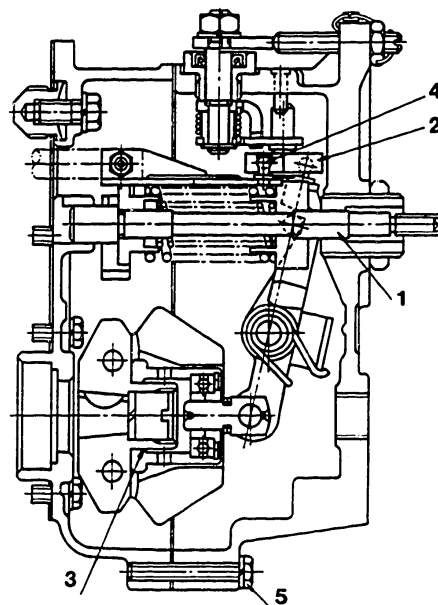

Fig. 131 Installation of the governor cover assembly
15. Governor cover assembly installation sequence (Fig. 131)